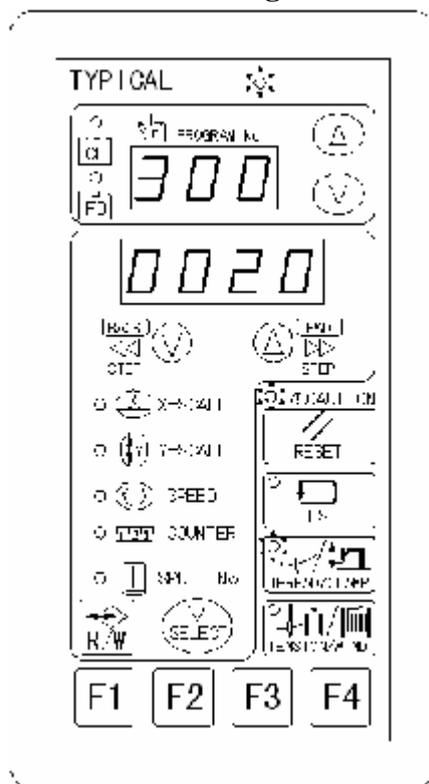

Fig. 6-17
4. Press  key, to save pattern, with operation panel as shown in Fig. 6-17.
3. Continue pressing arrow key, to move machine needle from point A to point B, and press  for confirmation when moving to point B; then move machine needle to point C and press  for confirmation. As shown in Fig. 6-17 Machine needle is lifted to highest point by hand wheel.